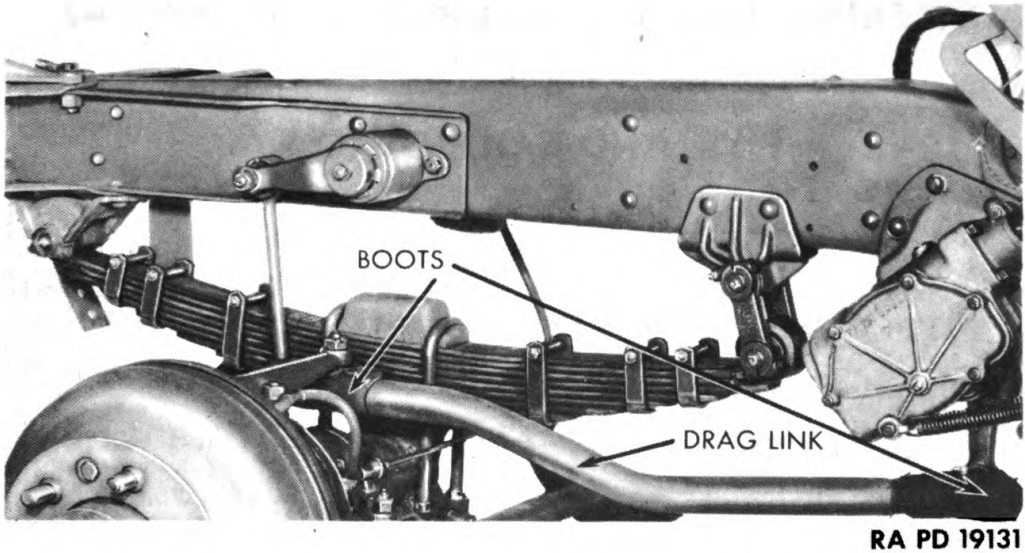

Figure 222 — Steering Gear Drag Link — Installed
a. **Description** (fig. 222). The steering gear connecting rod or drag link is of tubular type with adjustable spring-loaded ball sockets. At the axle end, the spring is between the ball seat and the end plug. At the steering gear end of the drag link, the spring is between the ball seat and the front of the drag link. Each drag link end is covered by a protective boot.